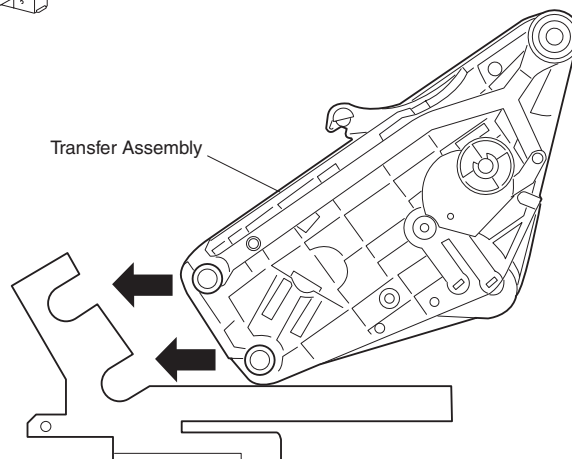

Figure 4
3. Carefully lower the back of the Transfer Assembly into the printer frame, making sure the plastic rollers at the back of Assembly fit into place in the grooves in the printer frame (Figure 4).